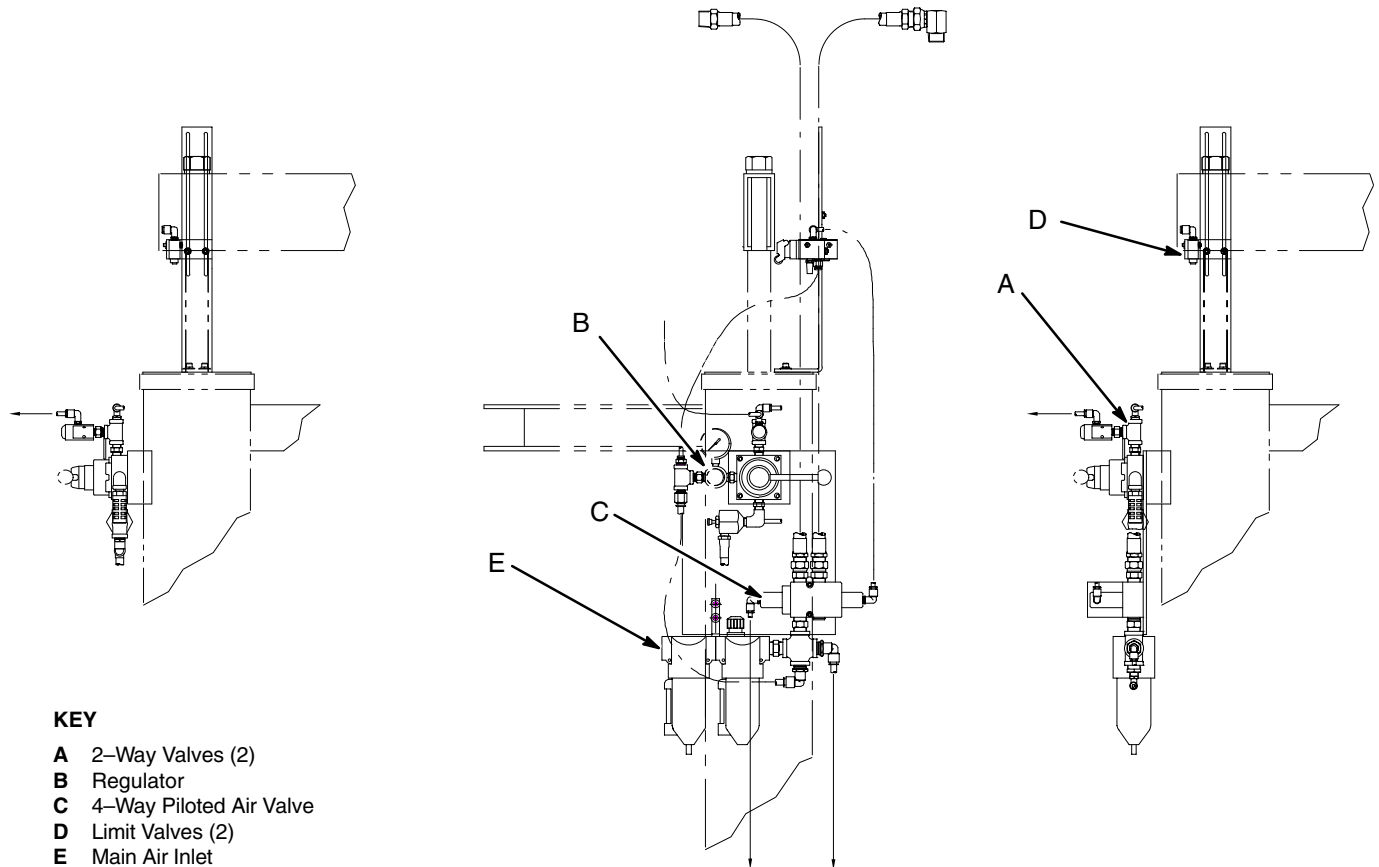

Fig. 3
Install the pneumatic crossover as shown in Fig. 3.
NOTE: The position of the limit valve (4) on the ram determines when the ram air motor is turned on and off. During operation, this position can be adjusted as desired. See Fig. 3.